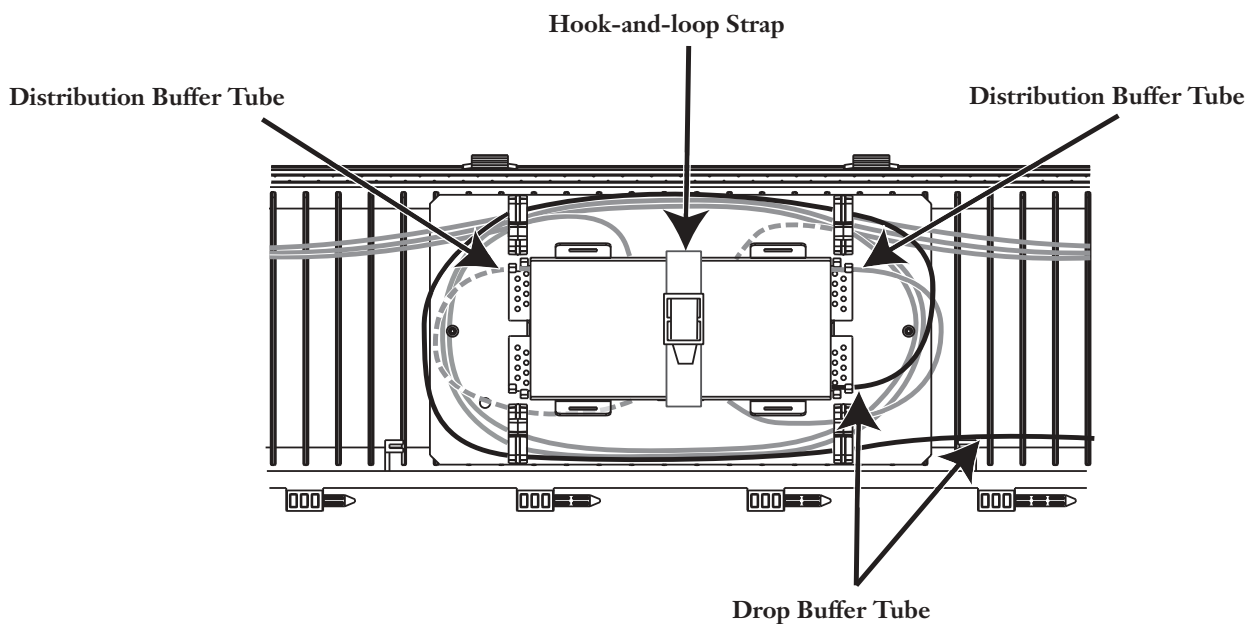

Figure 20 — Secure Splice Tray
- Step 4** Secure the splice tray to the holder using the hook-and-loop strap (Figure 20).